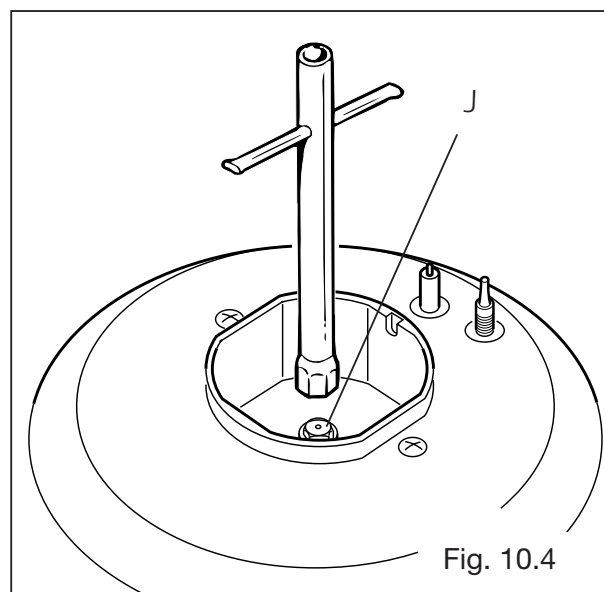

Fig. 10.4
- Using a wrench, substitute the nozzle injectors “J” (Figs. 10.4 - 10.5) with those most suitable for the kind of gas for which it is to be used.